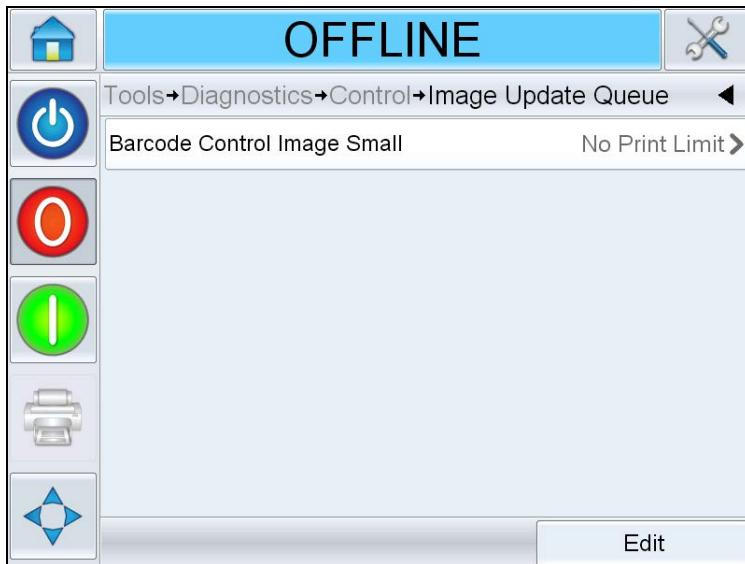

Figure 5-20: Job Queue Page
- 2 Touch the *Job Queue* button, to display the 'Image Update Queue' page. You can view the queue of jobs and the progress of the current job and allocation (see Figure 5-20 on page 5-30).